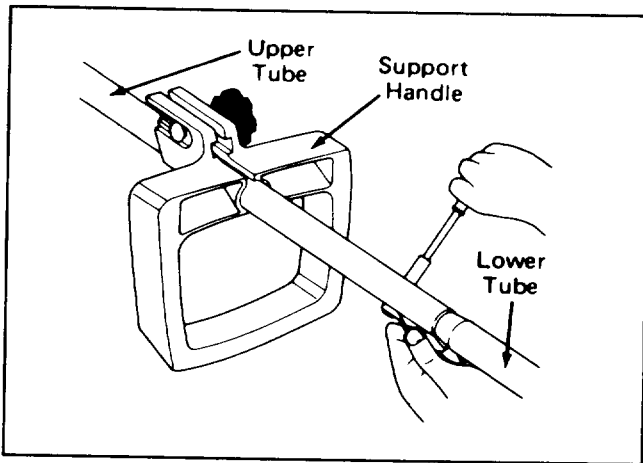

Figure 4
**4.** Secure with capscrew and locknut and tighten until all play between tubes is eliminated (Fig. 4).
6. Support handle may now be adjusted to desired operating position by sliding handle to desired height and tightening knob (Fig. 4).